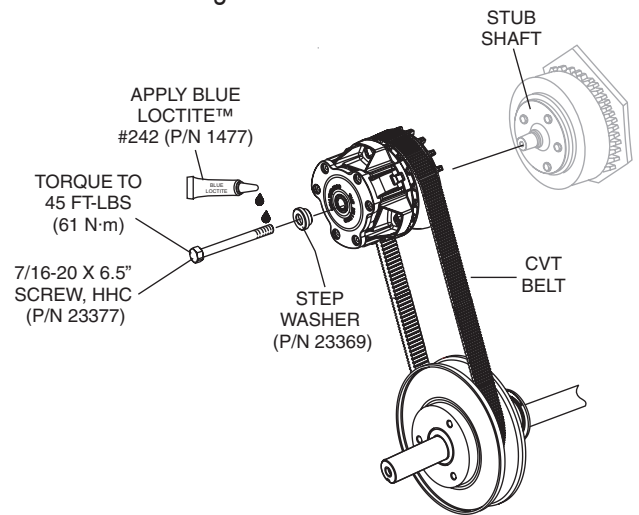

Figure 18. Installing Clutch Assembly
2. Once CVT belt has been placed into upper pulley grooves, mount clutch assembly onto stub shaft using 7/16-20 x 6.5" clutch retaining screw and 7/16" step washer. See Figure 18.